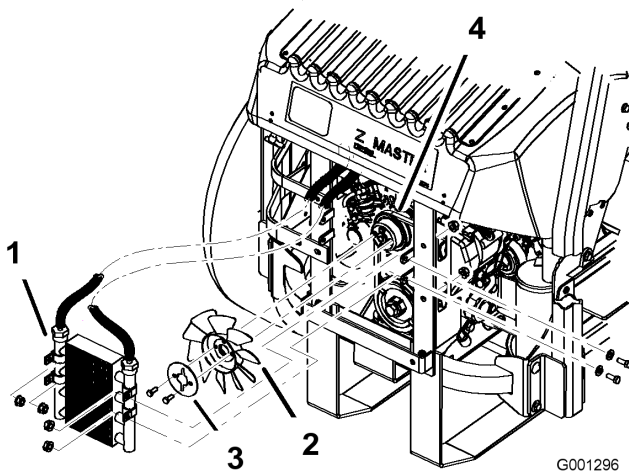

Figure 57
- Remove the 4 bolts holding the oil cooler and position the oil cooler to the side (Figure 57).
- Remove the 2 bolts holding the fan and fan plate to the machine (Figure 57).
- Install the fan and fan plate to the machine with the 2 bolts previously removed (Figure 57).
- Install the oil cooler with the 4 bolts previously removed (Figure 57).